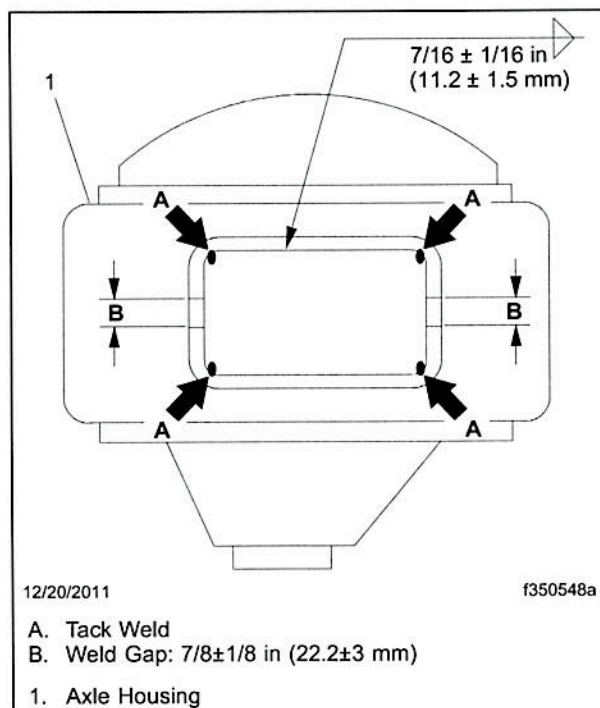
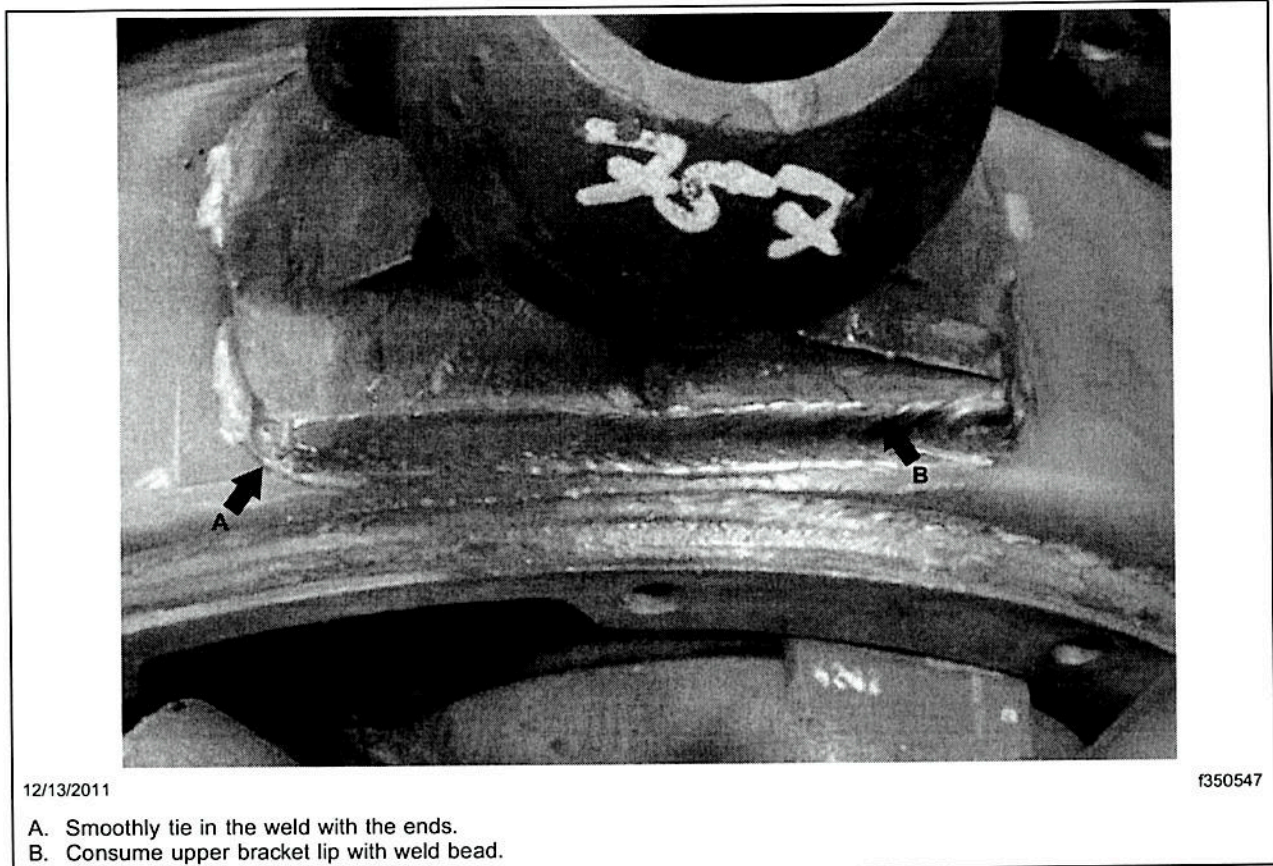

Fig. 3, New Bracket Weld, Locations and Dimensions
Fig. 4, New Bracket Weld, Completed
- Tack weld all four corners of the bracket to the housing as shown in Fig. 3.
- Repair weld the affected region following the dimensions in Fig. 3. It is important to smoothly tie in the weld with the ends. Make sure the weld covers the upper edge of tower bracket. See Fig. 4.